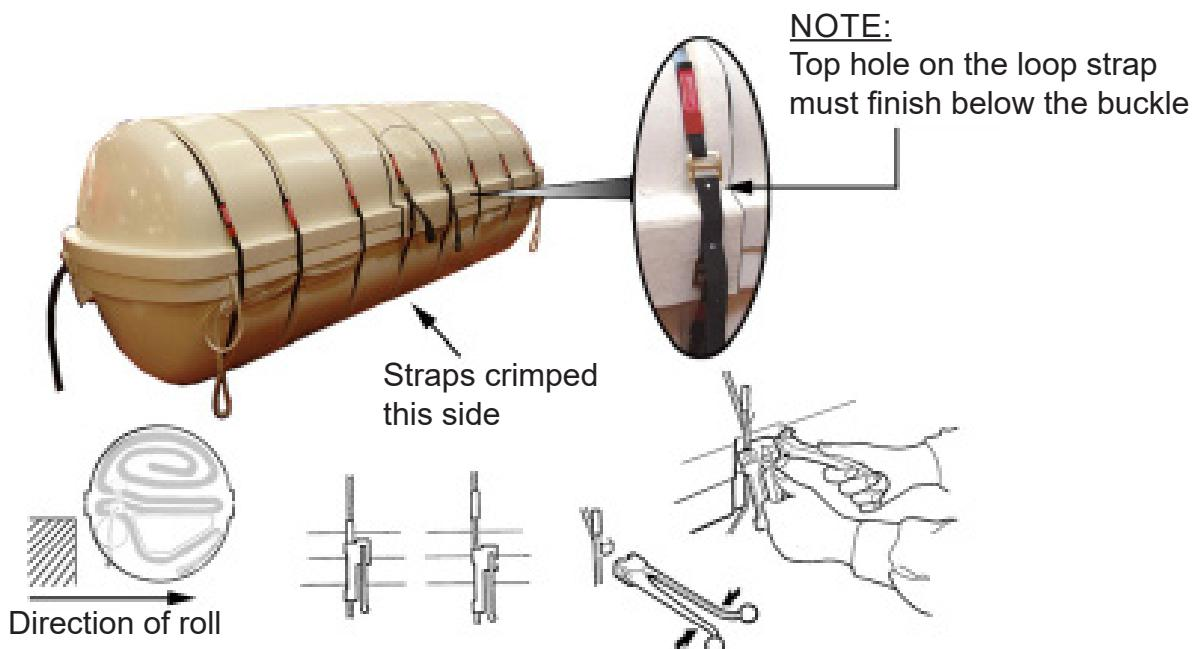

FIGURE 836
- 5.64 Get two hand loop straps and crimps. These will be used to hold the davit ring access door in place. Refer to FIGURE 836.
- 5.65.1 Adjust the ends of each strap so that the outer most strap end is facing upwards and is approximately 25 mm (1") above the rim of the container. Refer to FIGURE 836.
- 5.65.2 Apply the tensioning tool to each strap at a midpoint across the two rims. Operate the handle to tension each strap until the base of the tensioning tool rests in the lower container rim. Secure the strap with a crimp using a crimping tool. Refer to FIGURE 836.
- 5.67 Put 'DO NOT CUT' tape over the top of the straps in each groove of the container. Refer to FIGURE 836.